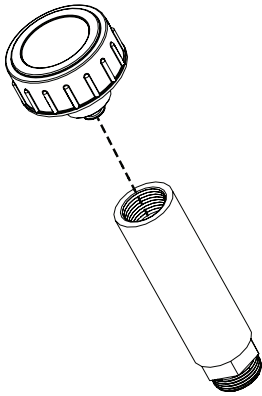

Figure 3
3. If the existing breather cap is damaged, order a new cap (P/N 1320953) from McNeilus Truck and Manufacturing, Inc. Unscrew the cap from the existing filler neck (or use a new breather cap) and screw it onto the new filler neck (P/N 1570075) (Figure 3).